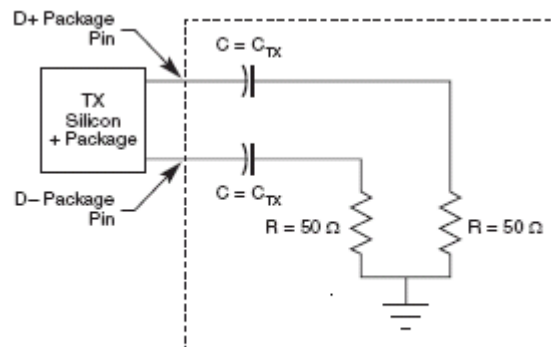

Figure 53. Compliance Test/Measurement Load
1. Specified at the measurement point into a timing and voltage compliance test load as shown in Figure 53 and measured over any 250 consecutive TX UIs.
1. Specified at the measurement point and measured over any 250 consecutive UIs. The test load in Figure 53 should be used as the RX device when taking measurements. If the clocks to the RX and TX are not derived from the same reference clock, the TX UI recovered from 3500 consecutive UI must be used as a reference for the eye diagram.
2. Specified at the measurement point into a timing and voltage compliance test load as shown in Figure 53 and measured over any 250 consecutive TX UIs.
2. Specified at the measurement point and measured over any 250 consecutive UIs. The test load in Figure 53 should be used as the RX device when taking measurements. If the clocks to the RX and TX are not derived from the same reference clock, the TX UI recovered from 3500 consecutive UI must be used as a reference for the eye diagram.